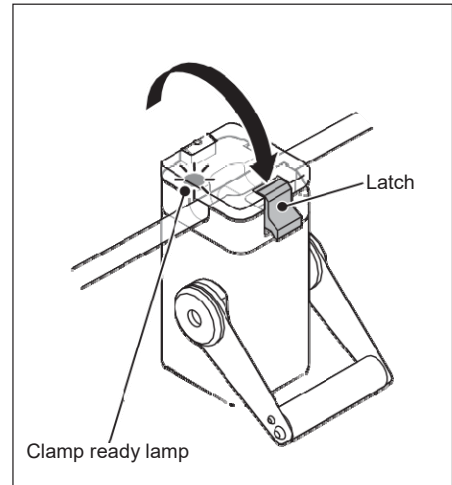

Figure 1-55
4. Close the lid of the Fast Clamp, and close the latch. (Figure 1-55)